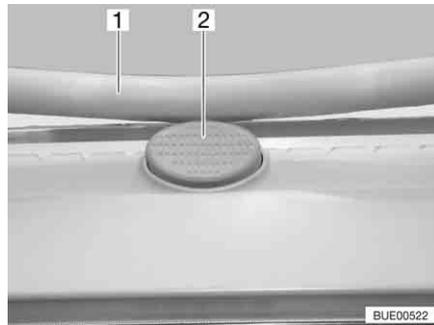

Fig. 80 Safety knob on the Heki skylight
- Press the safety knob (Fig. 80,2) and pull the bar (Fig. 80,1) down with both hands.
- Push the bar upwards with both hands until it is above the safety knob (Fig. 80,2).